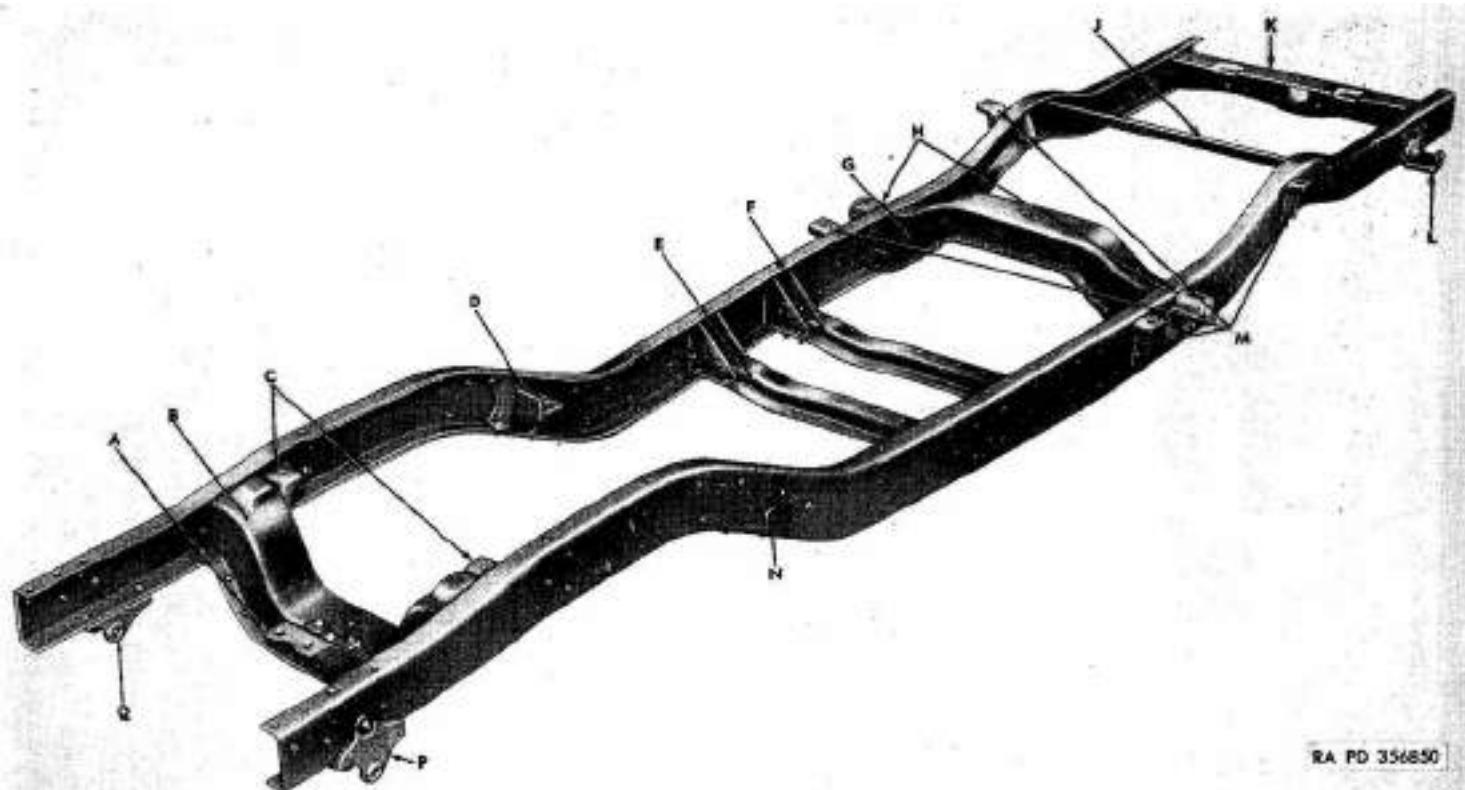

Figure 177. Frame assembly.
a. *Frame Assembly* (fig. 177). The frame assembly consists of two double-drop, high carbon steel side rails and six cross members. Five of the cross members are riveted to the frame side rails. The transfer rear cross member is bolted to the side rail gussets to facilitate replacement of the transfer assembly. The frame front cross member and rear spring front bracket cross member are box-type assemblies for added rigidity. The radiator support bracket, spring brackets, engine front support brackets, and body hold-down brackets are also riveted to the frame side rails or cross members.